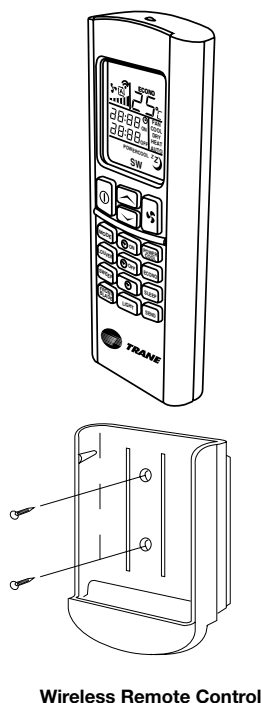

Figure 25
4. Attach the remote control holder as shown in Figure 25, 26.